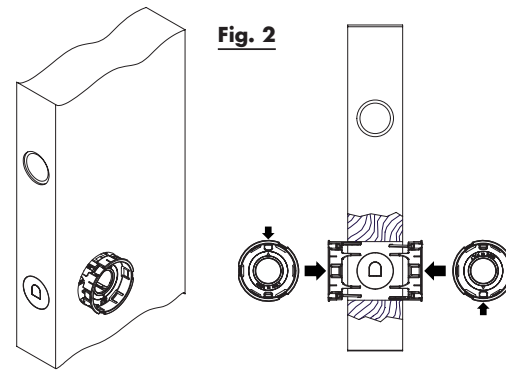

Fig. 2
3. Apply the two plastic supports of the plates recessed in their housing  $\varnothing 48$  (Fig. 2). The supports are inserted opposite and rotated  $180^\circ$  between them, in this way they engage each other, until their stopping on both sides of the door and adapting automatically to the thickness of the panel.